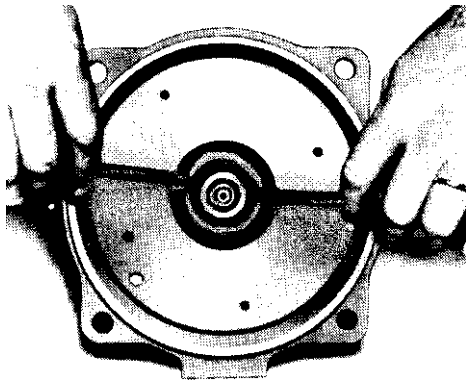

Figure 2
1. Remove foot bolt (10).
2. Remove casing bolts (12).
3. Remove back pull-out assembly from casing (2).
4. Remove diffuser seal ring (3) and diaphragm (4).
5. Remove diffuser screws (5) from adapter (11).
8. Remove impeller (7), turning COUNTER-CLOCKWISE.
9. Using two screwdrivers, pry off rotary section of mechanical seal (8). Discard. See Figure 2.
10. Remove motor adapter bolts (12) and remove motor adapter from motor.